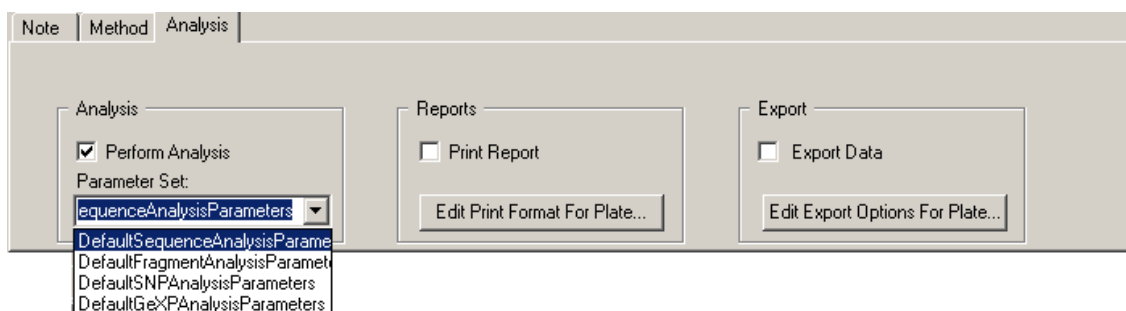

Figure 2.17 Analysis Tab - Selecting a Parameter Set
4. Select the parameter set from the **Parameter Set** drop-down list (see Figure 2.17).
1. Select the **Export Data** option in the Export section of the Analysis Tab (Figure 2.17).